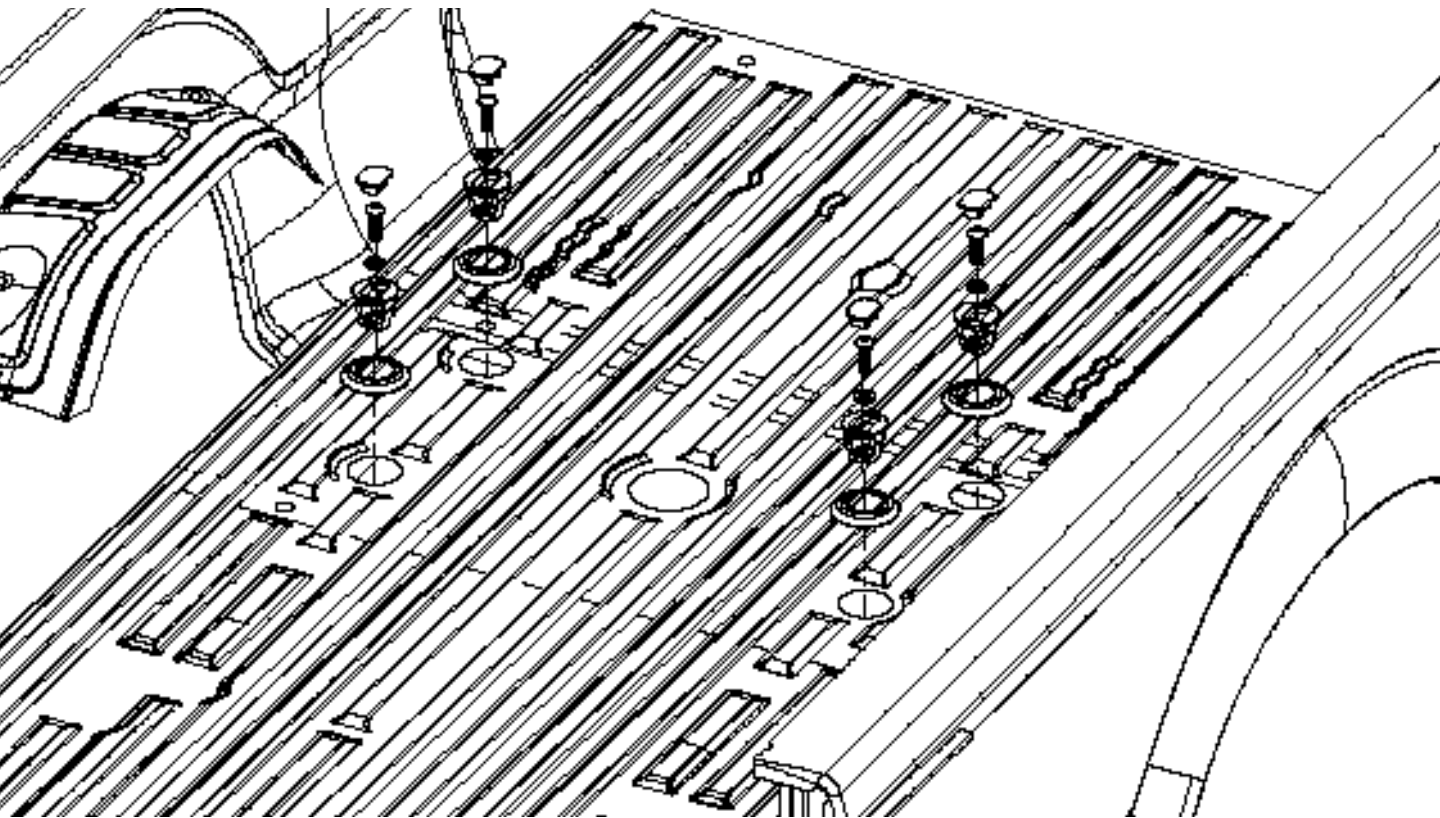

Figure 14
20. From truck bed attach pucks (#7) (**Figure 1**) and trim rings (#8) (**Figure 1**) to rails as shown in **Figure 14** below using 5/8" button head screw (#5) and lock washer (#6) using 3/8in. Allen socket. Tighten to 110ft.lbs. torque.